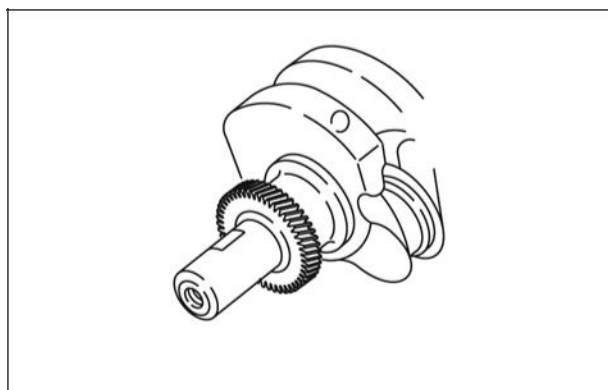

Figure 3
5. Check crankshaft timing gear teeth for damage (Figure 3). If timing gear teeth are damaged or worn, the crankshaft must be replaced.